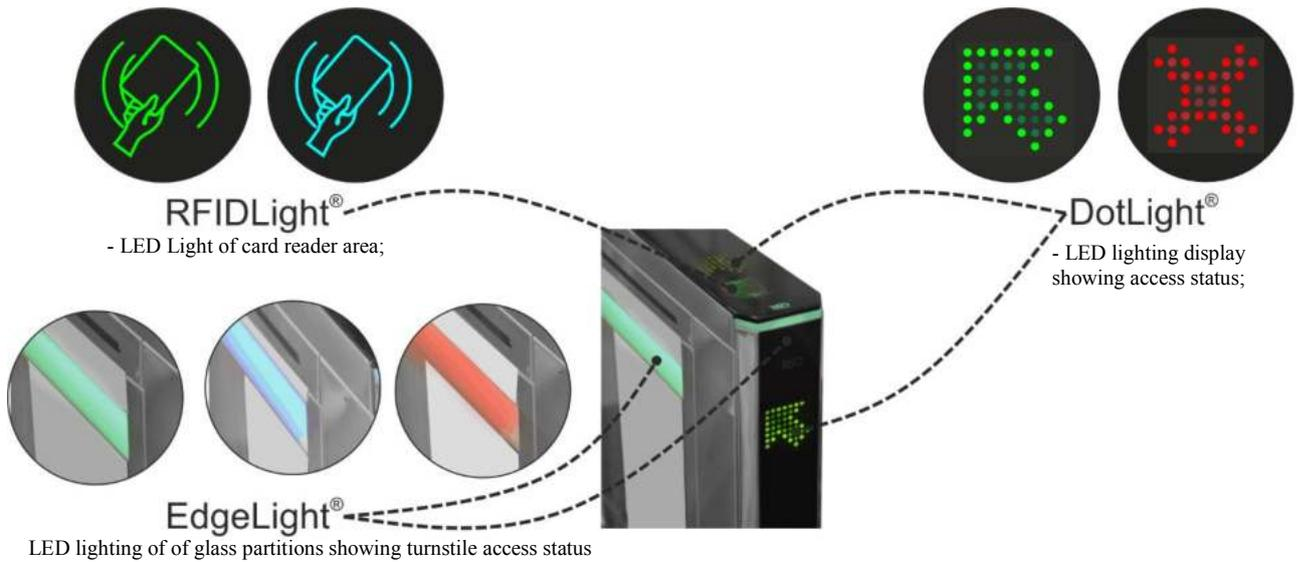

Fig.6 – Light indication of the turnstile status
The turnstile status is displayed by LED display board (3) *DotLights*®, installed in the cabinet's frame. The lit blue LED means initial state of the turnstile (Fig.6). In case of attempt of unauthorized access red LED starts blinking and audible signal is generated on control desk. When opening command is issued, LED is changed to green from the side of authorized access. If unauthorized access is attempted when swing leafs (10) are opened, then the leafs will be closed, if there is no any obstacle in the leafs' swinging area.